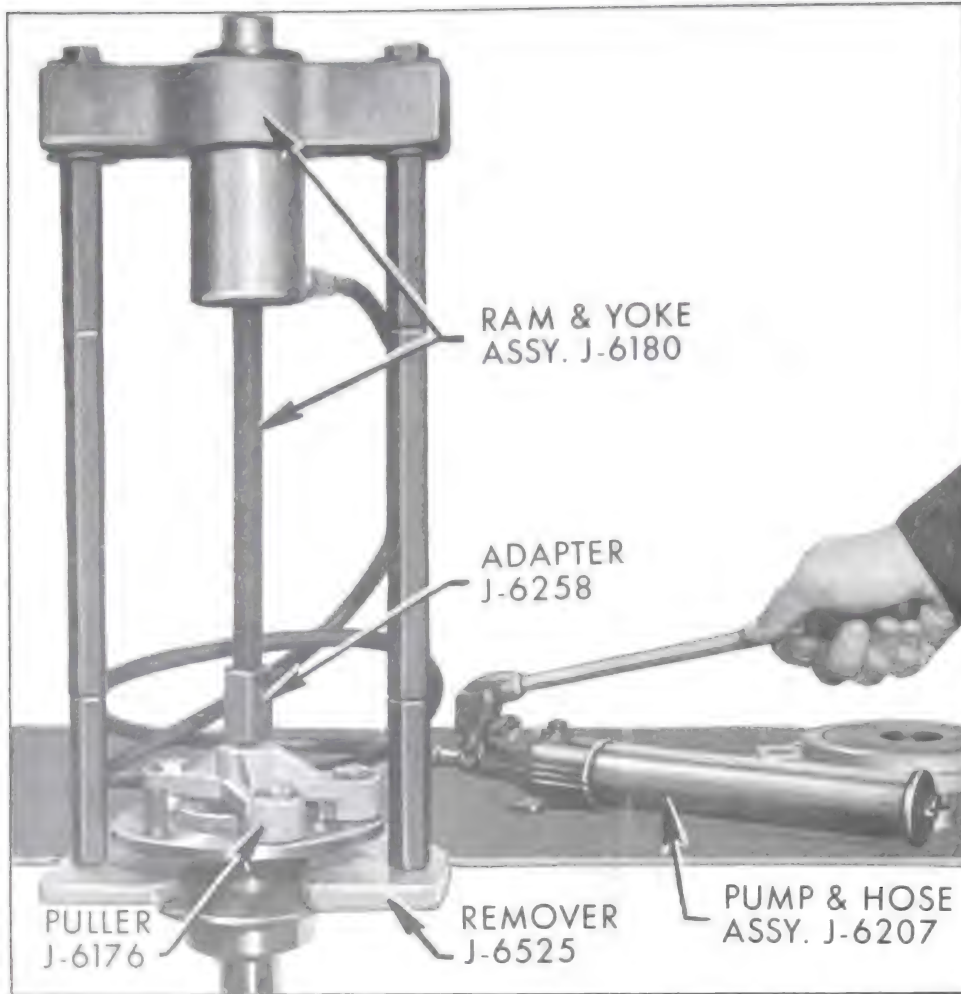

Figure 6-7—Removing Rear Wheel Bearing
2. Press wheel bearing off, using Remover J-6525 either in a press or in a set-up using Ram and Yoke Assembly J-6180 and Adapter J-6258 as shown in Figure 6-7.